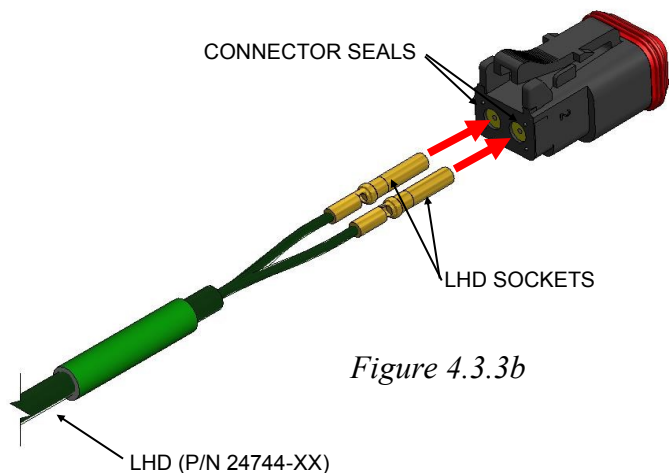
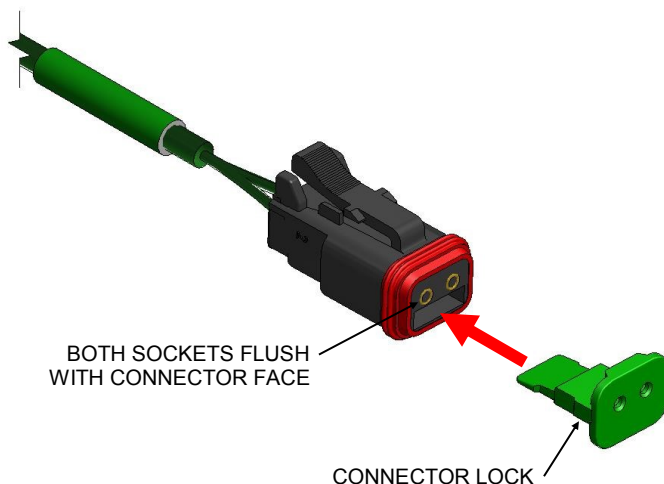

Figure 4.3.3b
Figure 4.3.3c
2. Insert both LHD sockets into the seals on the back of the male connector. **Both sockets must be inserted at the same time** (See Figure 4.3.3b). Insert fully until a “click” is heard for each and the sockets are flush with the front of the connector face (See Figure 4.3.3c).